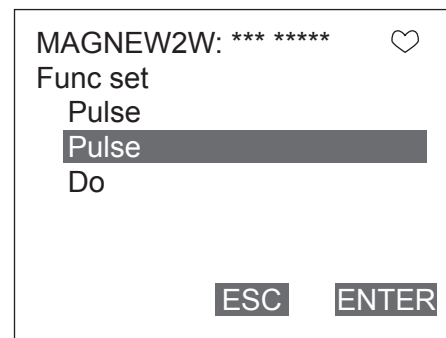

Figure 7-15
Figure 7-15 will then be displayed.
2. Once the display as shown in Figure 7-15 appears, move the arrow key up or down to select a display. After making a selection, press F4 (ENTER). Pulse (Pulse output) • Do (contact output) can be selected. If F3 (ESC) is pressed here, the selection will be canceled and the display will return to the basic menu.